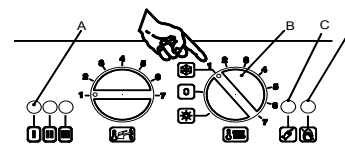

Figure 15.4
- Turn the function selector B as in Fig. 15.4 The appliance operation light A will flash every 2 seconds.
To reset the boiler turn the knob B (figure 15.4) on the 0 position and then press and release the boiler reset button C (Fig. 15.4)
With the burner on high flame close the gas cock. After three ignition attempts (within about three minutes), the lock-out signal lamp must appear (D on Figure 15.4). To reset the boiler turn the knob B (figure 15.4) on the 0 position and then press and release the boiler reset button (C on Figure 15.4).